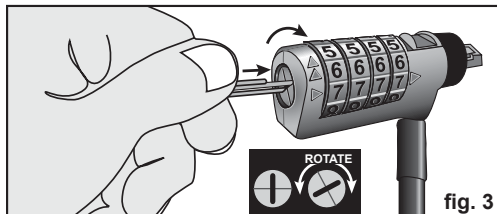

fig. 3
2. Push in the *Reset Button*(c)[fig. 1] with the end of a paper clip or a flathead screwdriver and rotate until it stops (about ¼ turn) in either direction. [fig. 3] Release the paper clip or screwdriver.